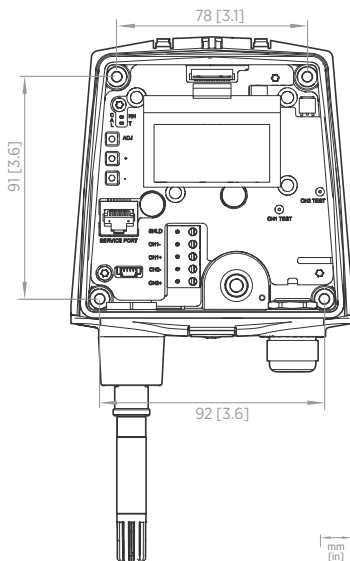

Figure 3 Wall mounting measurements
2. Make sure that the transmitter is correctly aligned and attach it directly to the wall with up to four screws (not included in the package). Figure 3 \(page 18\) shows the distances between attachment points.